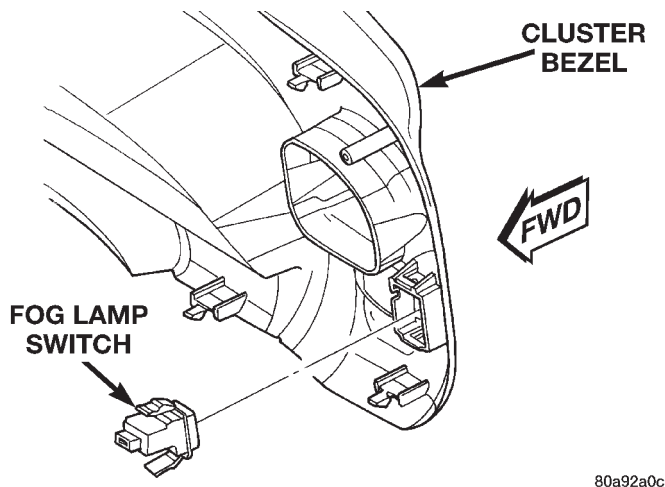

Fig. 2 Fog Lamp Switch Remove/Install
(1) Disconnect and isolate the battery negative cable.
(2) Remove the cluster bezel from the instrument panel. See Cluster Bezel in the Removal and Installation section of this group for the procedures.
(3) From the back side of the cluster bezel, squeeze the tabs on the back of the fog lamp switch that secure it in the receptacle on the back of the bezel (Fig. 2).